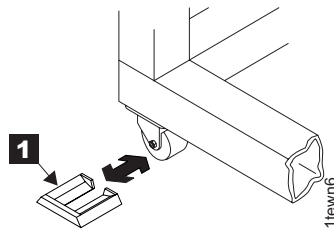

Figure 63. Wedge chocks
14. Install the wedge chocks **1** (located in the ship group) on all four casters. If caster locks are available, engage the caster locks on all casters. Refer to Figure 63.